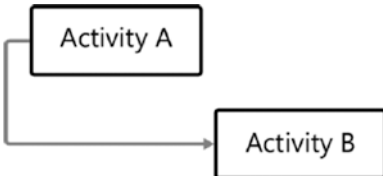

Figure 4-5. *Start-to-start relationship*
- *Start-to-start (SS)*: The successor activity cannot start until the predecessor activity starts. For example, you cannot begin testing a new piece of software until you have started writing the code. Figure 4-5 depicts how this can be represented diagrammatically.